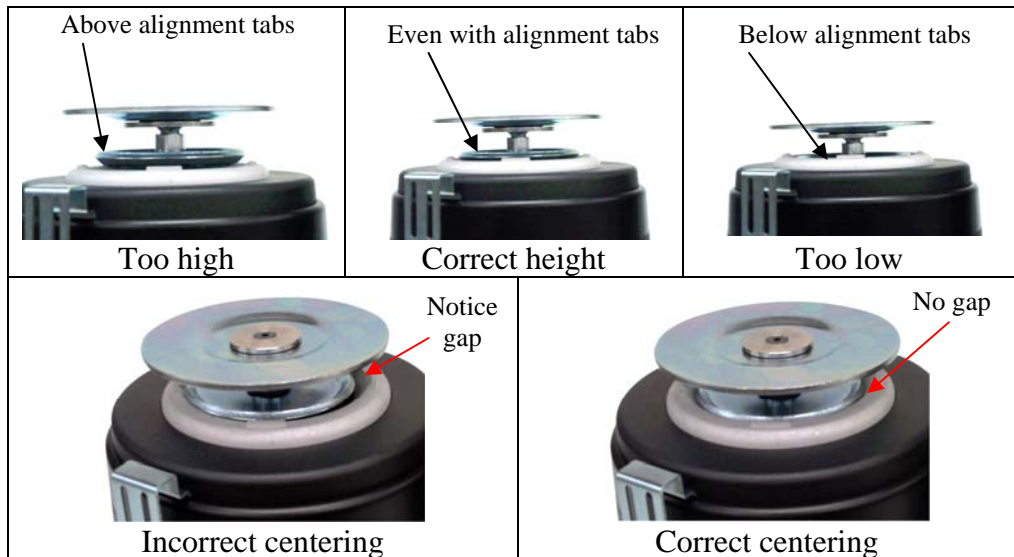

Figure 11— Floating Height Adjustment and centering
1. After the table floats, check the position of the centering guide and flange of all isolators (Figure 11). The gap between the guide and flange should be  $\frac{1}{4}'' \pm \frac{1}{16}''$  (6mm  $\pm$  1.5mm). The center of the isolator centering disk should be aligned with the float height indicator tabs (Figure 11).
2. Isolators that float too high, too low, or are not centered may conduct floor vibration to the table top. Refer to Section 2.3.2. (Figure 11) Centered isolators will remain centered unless the table and isolators are moved relative to each other.